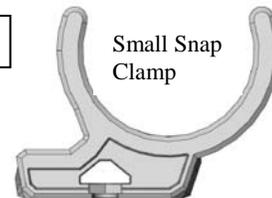

Fig. 1
1. Refer to Fig. 2. Align (3) large snap clamps with the mount holes on the inside of the rear panel. The snap clamps should be aligned so the hook portion is facing the inside of the vehicle, as shown in Fig. 1. Loosely fasten the snap clamps to the rear panel using (6) screws.
2. Align (2) small snap clamps with the mount holes on the inside of the rear panel. The snap clamps should be aligned with the flat portion facing the inside of the rear panel as shown in Fig. 1. Loosely fasten the snap clamps to the rear panel using (4) screws.
3. Insert (2) rubber grommets through the underside of the holes on the bottom of the rear panel. Push the grommet through until the top has gone completely through the rear panel. You may need to use a flat head screwdriver to pry the grommet all the way through.